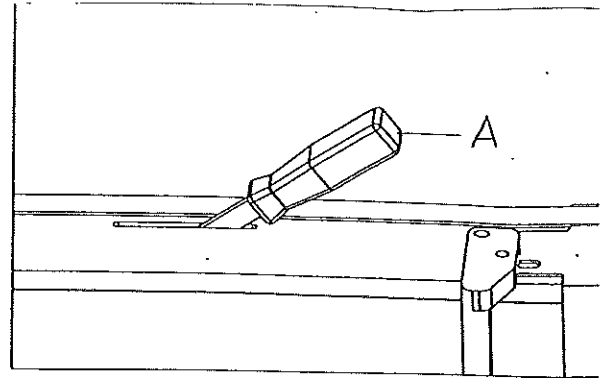

Fig.9
3. Release tension on the belt by pushing handle (A. Fig. 9) to the left (as the operator faces the machine)